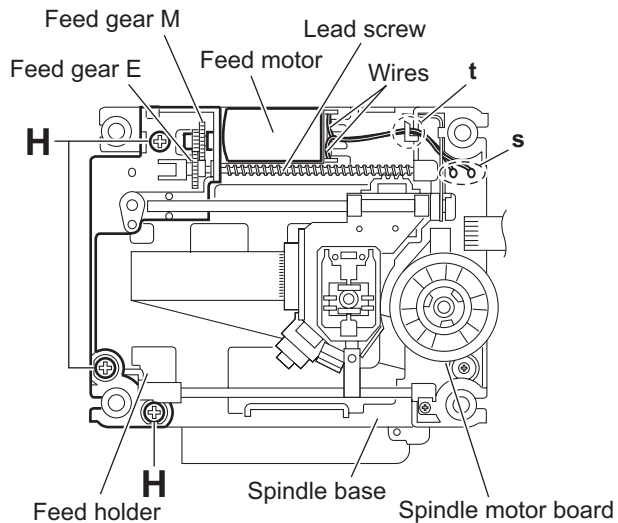

Fig.11
- Remove the wires from the soldered section **s** on the spindle motor board. (See Fig.11.)
When attaching the feed motor, pass the wire through the section **t** on the spindle base. (See Fig.11.)
- Remove the feed holder, feed motor, lead screw, feed gear E and feed gear M at the same time after removing the three screws **H** attaching the feed holder. (See Fig.11.)
### 3.2.8 Removing the spindle motor board (See Figs.11 and 13)
- From the top side of the traverse mechanism assembly, remove the wires from the soldered section **s** on the spindle motor board. (See Fig.11.)